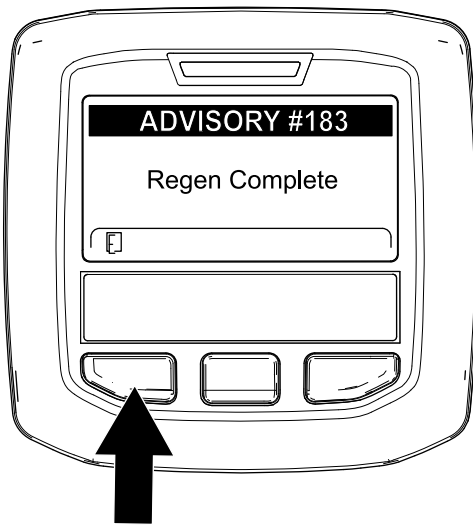

Figure 57
- When the engine computer completes a parked or recovery regeneration, the InfoCenter displays ADVISORY #183 (Figure 57). Press the left button to exit to the home screen.